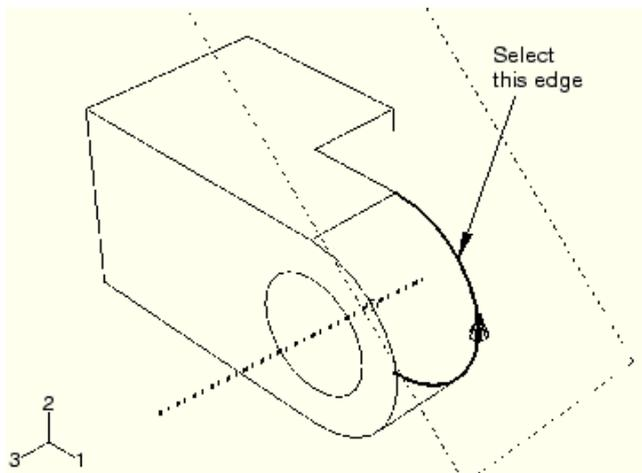

Figure C-16 Select the second edge.
4. Select the second curved edge of the flange, as shown in Figure C-16.
5. Note the direction of the arrow indicating an increasing edge parameter from 0.0 to 1.0. Enter a normalized edge parameter of 0.75 (or 0.25 if the sense of the arrow is opposite that shown in Figure C-16), and press **[Enter]**.